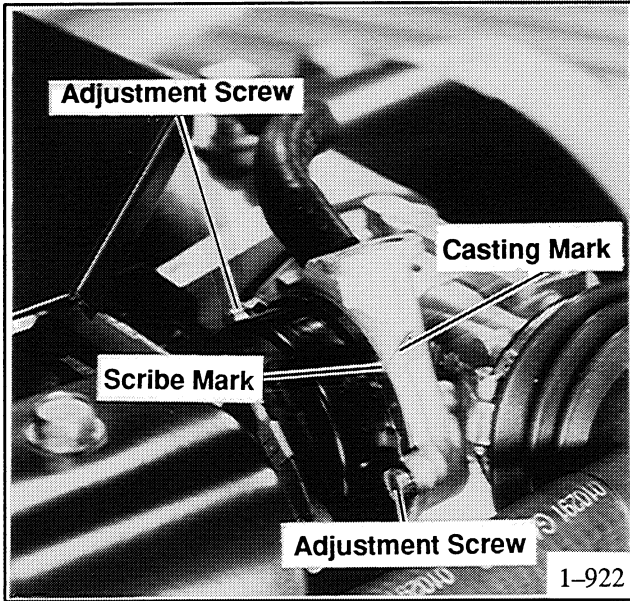

Figure 3-11. Electric Choke Adjustment
A Kohler Thermo–electric automatic choke is used to enrich the gasoline fuel mixture during starting. The choke automatically closes as the ambient temperature cools or as the engine temperature decreases. As the engine warms, the coils inside the choke allow the choke plate to open. If readjustment is needed, loosen the two screws securing the choke bracket to the carburetor and shift the position of the choke assembly (Figure 3-11). When properly set, the choke plate will be within 5 to 10 degrees of full open at approximately 70° F (21° C).
1. Where the choke casting mark meets the black plastic cover of the choke, make a scribe mark on the choke's black cover. See Figure 3-11.